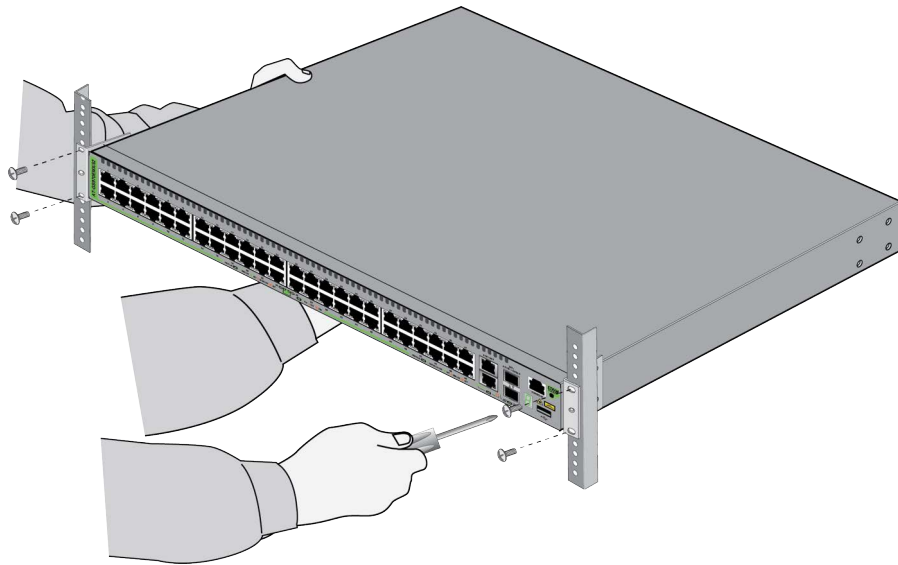

Figure 46. Securing the GS970EMX/52 Switch in a Standard 19-inch Equipment Rack
3. Have another person hold the switch at the selected location in the equipment rack while you secure it using four standard equipment rack screws (not provided). Refer to Figure 46.